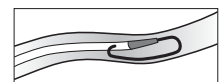

Figure 4
- ⚠ Caution: If resistance is encountered when attempting to remove guidewire after catheter placement, guidewire may be kinked around tip of catheter within vessel (refer to Figure 4).